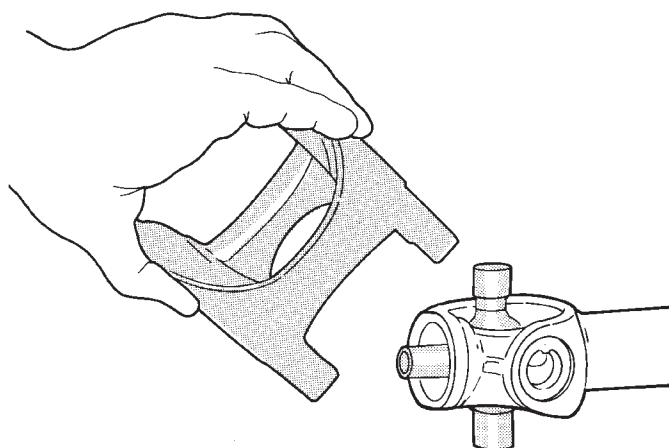

Fig. 27 Install Link Yoke
(7) Fit the link yoke on the remaining two trunnions and press both bearing caps into place (Fig. 27).
(8) Install snap rings.